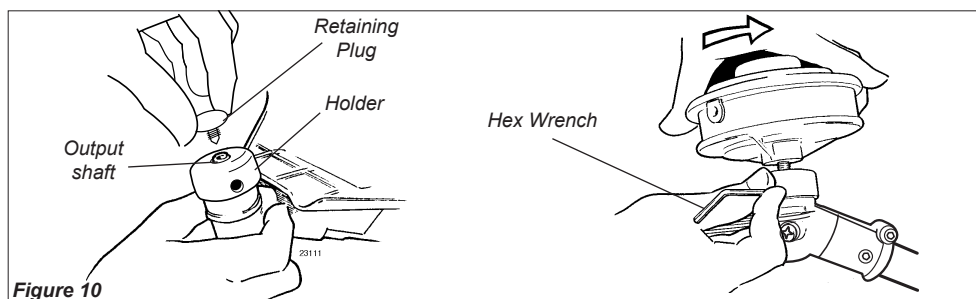

Figure 10
3. Remove and discard the black plastic protective cap from the output shaft. See Figure 10.
4. Rotate the holder until the hole in the holder aligns with the notch on the gear case. Use the long end of the hex wrench to lock the holder and output shaft. See Figure 10.